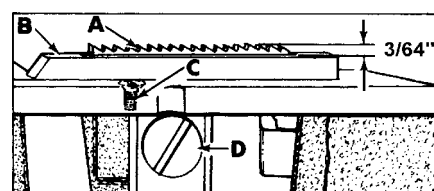

Fig 10
Feed dog (A, Fig. 10) should be centered in throat plate (B) with equal clearance on all sides and ends with feed travel set to desired stitch length. At highest point of travel, tips of feed dog teeth should extend the depth of 3/64" above throat plate and parallel to same. Screw (C) should be set to support feed dog after screw (D) has been loosened which secures feed dog in position.